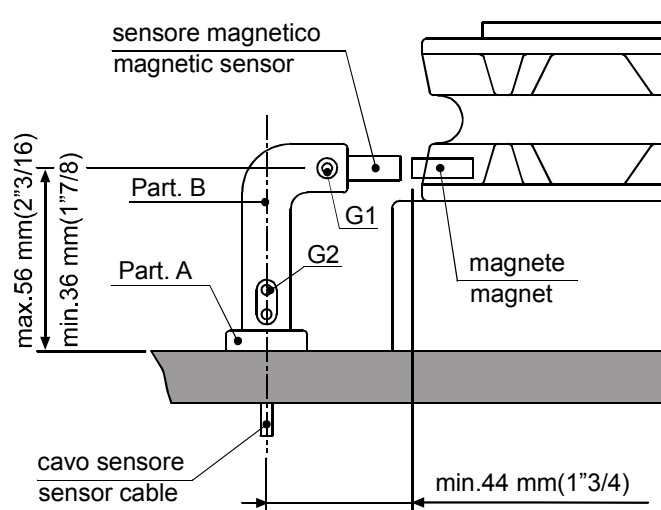

Fig. 1B
- In the case of vertical shaft anchor windlasses (see Fig. 1B), drill the hole in the lower circumference of the gipsy.